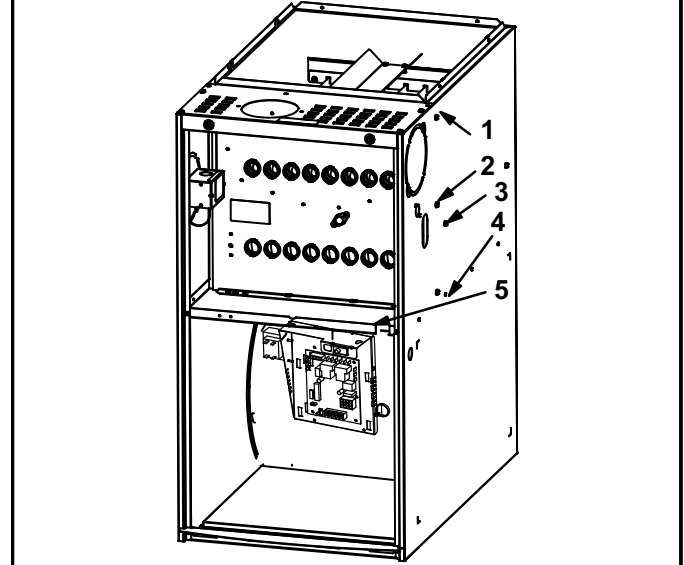

FIGURE 39
- 9 - Remove heat exchanger. It may be necessary to spread cabinet side to allow more room. If so, remove five screws from the left side or right side of cabinet. See figure 39.